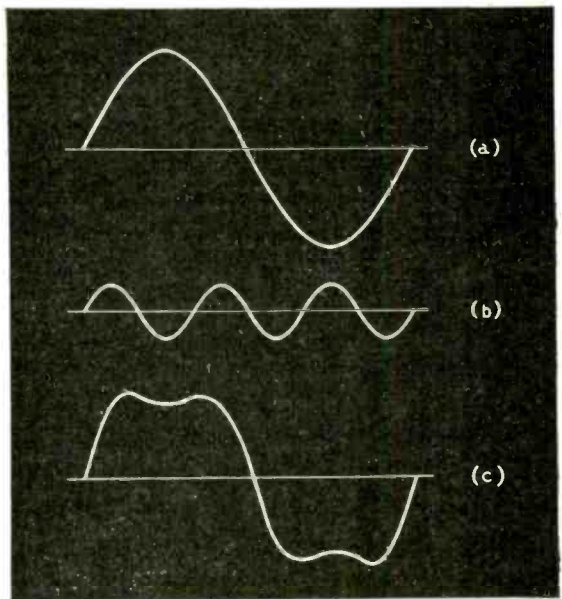
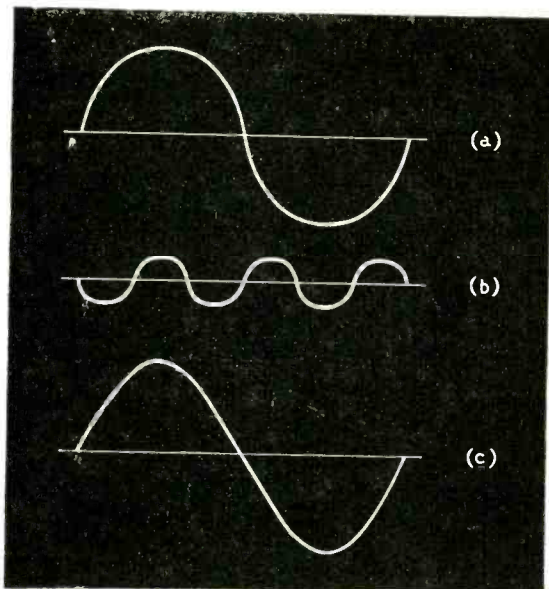

Fig. 2. Example of how a fundamental sine wave (a) and a harmonic (b) add up to a different waveform (c).
Fig. 3. Here, a non-sine waveform (a) and its harmonic (b) add up to a sine wave (c).
Look now at Fig. 2, which is the kind of thing
But what if somebody, just to be awkward, comes along and draws Fig. 3 showing that adding together the non-sine waves (a) and (b) gives a sine wave (c), so (c) must be a composite wave, made up of a fundamental and third harmonic? Would you be able to explain why Fig. 2 must be accepted rather than Fig. 3?
Now for many purposes (as we shall see) the significant thing about this circular motion is the height of B above the horizontal (OA). That height, in relation to the maximum it can attain—obviously equal to the length OB—has been named the sine of the angle AOB, abbreviated to $\sin \theta$. It is what the length OB has to be multiplied by to give the height of B above OA. When $\theta=0$ (or 180°), $\sin \theta$ is obviously 0; when θ is 90° it is 1, and when θ is 270° it is -1 . Plotting $\sin \theta$ against θ from 0 to 360° (or 2π radians) we get the familiar curve of Fig. 2(a). Suppose the maximum height, equal to the length of OB, is denoted by H. Then the height at any time t must be $H \sin \omega t$. So if we plotted height against time we would get a curve just the same shape as Fig. 2(a), of maximum or peak height H, and with f complete waves per second. Mathematically, there is nothing to equal this for simplicity and clearness in expressing uniform periodic motion or change. But from our point of view the more important thing is that it ties up perfectly with so many of the technicalities to which *Wireless World* is devoted.